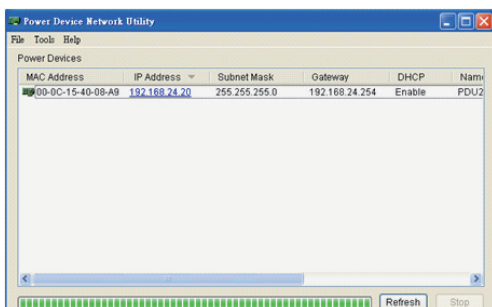

Figure 6. Equipment List
Step 1. Select the appropriate ATS PDU from the Equipment List (Shown in Figure 6).